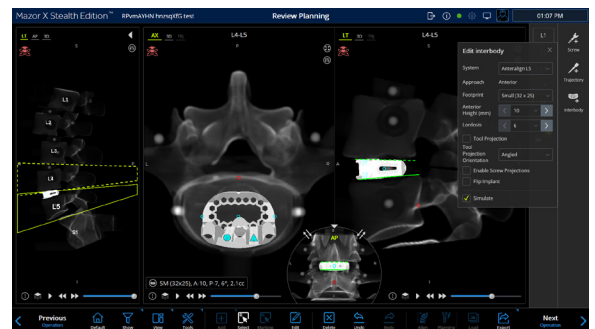

Figure 24
- There is a dropdown menu to select the implant footprint, anterior height, and lordosis. (**Figure 24**).